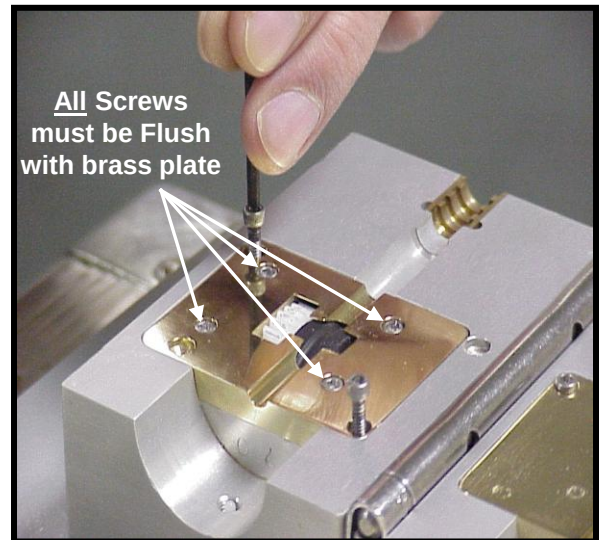

Figure 48
14.3.2.13 Replace two (2) long machine screws to secure Upper Brass Plate and lightly tighten. When properly assembled, the heads of the two (2) long screws will be flush with the Upper Brass Plate. **See Fig. 48**